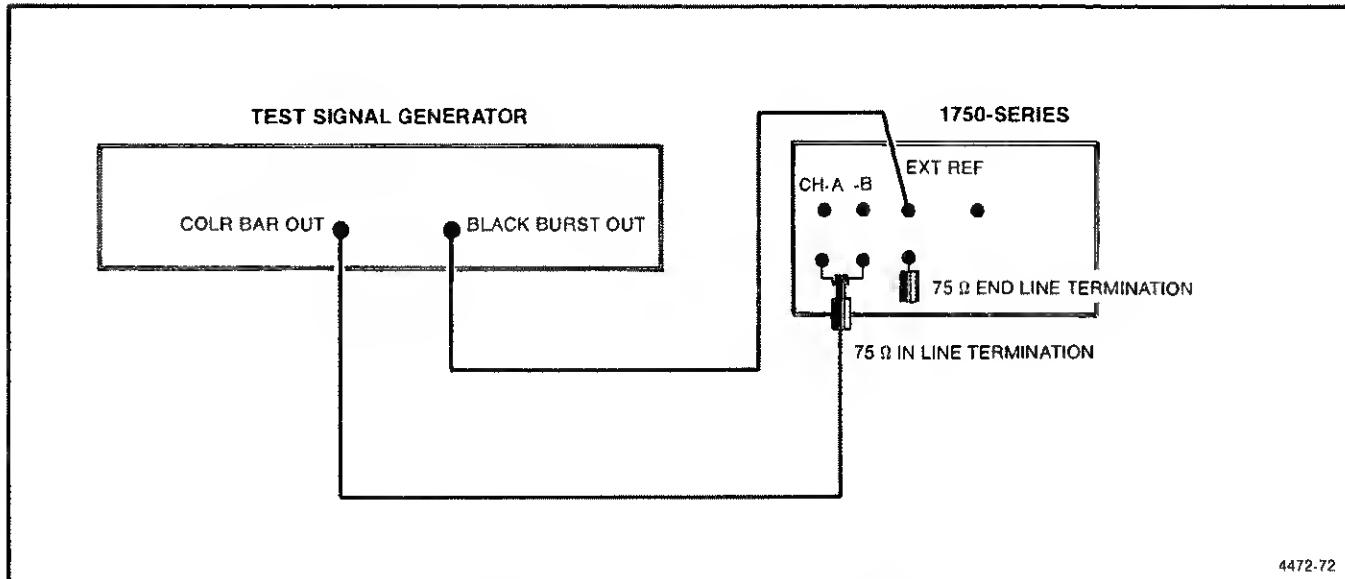

Fig. 5-8. Driving both CH-A and CH-B INPUTs with Color Bar signal.
a. See Fig. 5-8. Connect the Color Bar through a 75 Ω coaxial cable, a 75 Ω feedthrough terminator, and a dual input coupler to INPUTs A and B. Connect the Black Burst to the EXT REF INPUT. Display INPUTs A and B alternately with the VECTOR display and EXT REF.